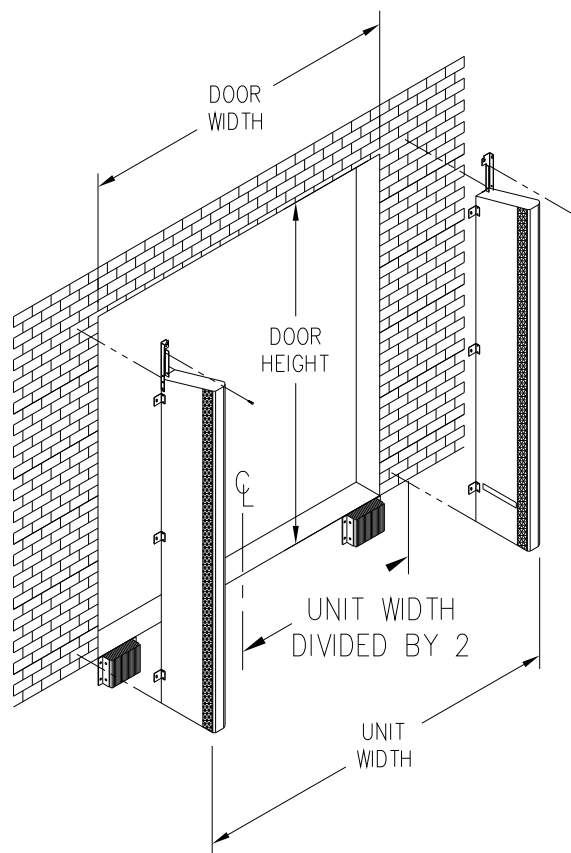

FIGURE 2
2. Measure the dock door opening. Divide this measurement in half and mark the centerline of the opening at dock level. (See Figure 2)
4. Measure from the door centerline half of the head member dimension and mark the outside wall at the bottom of the door opening or at dock level. This mark is for the outside edge of the side member. (See Figure 2)
5. Measure from the mark for the outside edge of the side member across the door opening the full specified unit width (at dock level). Mark this measurement for the outside edge of the second side member. (See Figure 2). Using carpenter's level, plumb up the wall the height of the side member and mark the outside edge of the side member on the wall at top. Measure full width, etc. Using a plumb bob or carpenter's level make sure that the outside wall is plumb from the highest point on the side member location to dock level. Shim the side members as required.